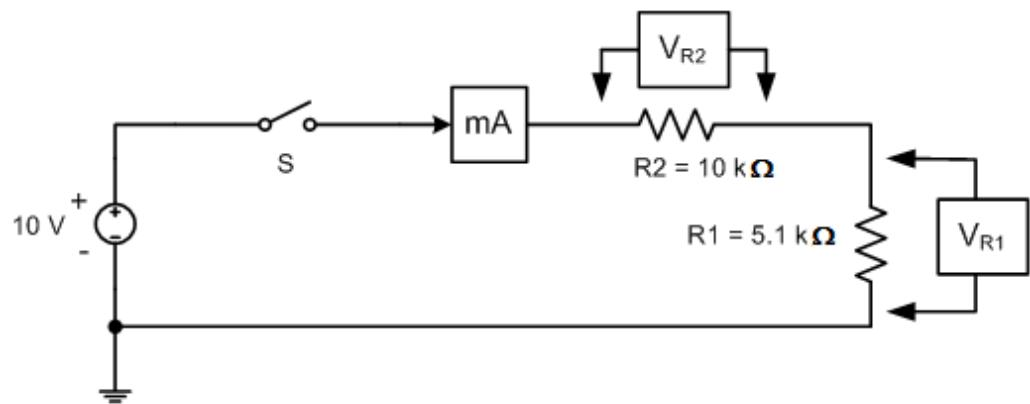

Figure 4.1
- ii) Consider the circuit shown in Figure 4.1. Calculate the current I , and the voltages V_{R1} and V_{R2} , assuming that input resistance of the ammeter is zero and that of the voltmeter is infinity. Enter your results into Table 4.2, in your lab book.
Step 2: Connect the circuit shown in Figure 4.1 on the protoboard using the prepared diagram from your preparation. ***Do not connect the voltmeter to the circuit yet.***
Step 8: Re-compute the values of I , V_{R1} and V_{R2} in the circuit of Figure 4.1 using the measured values of R_1 and R_2 . Comment on the results.